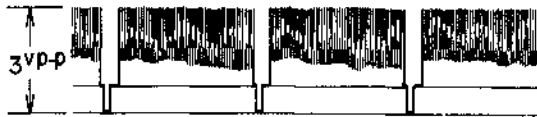

Fig. 2
- Connect Oscilloscope to Test Point TP-3. Adjust VR-4 so that the waveform amplitude is 3 Vp-p as shown in Fig. 2.